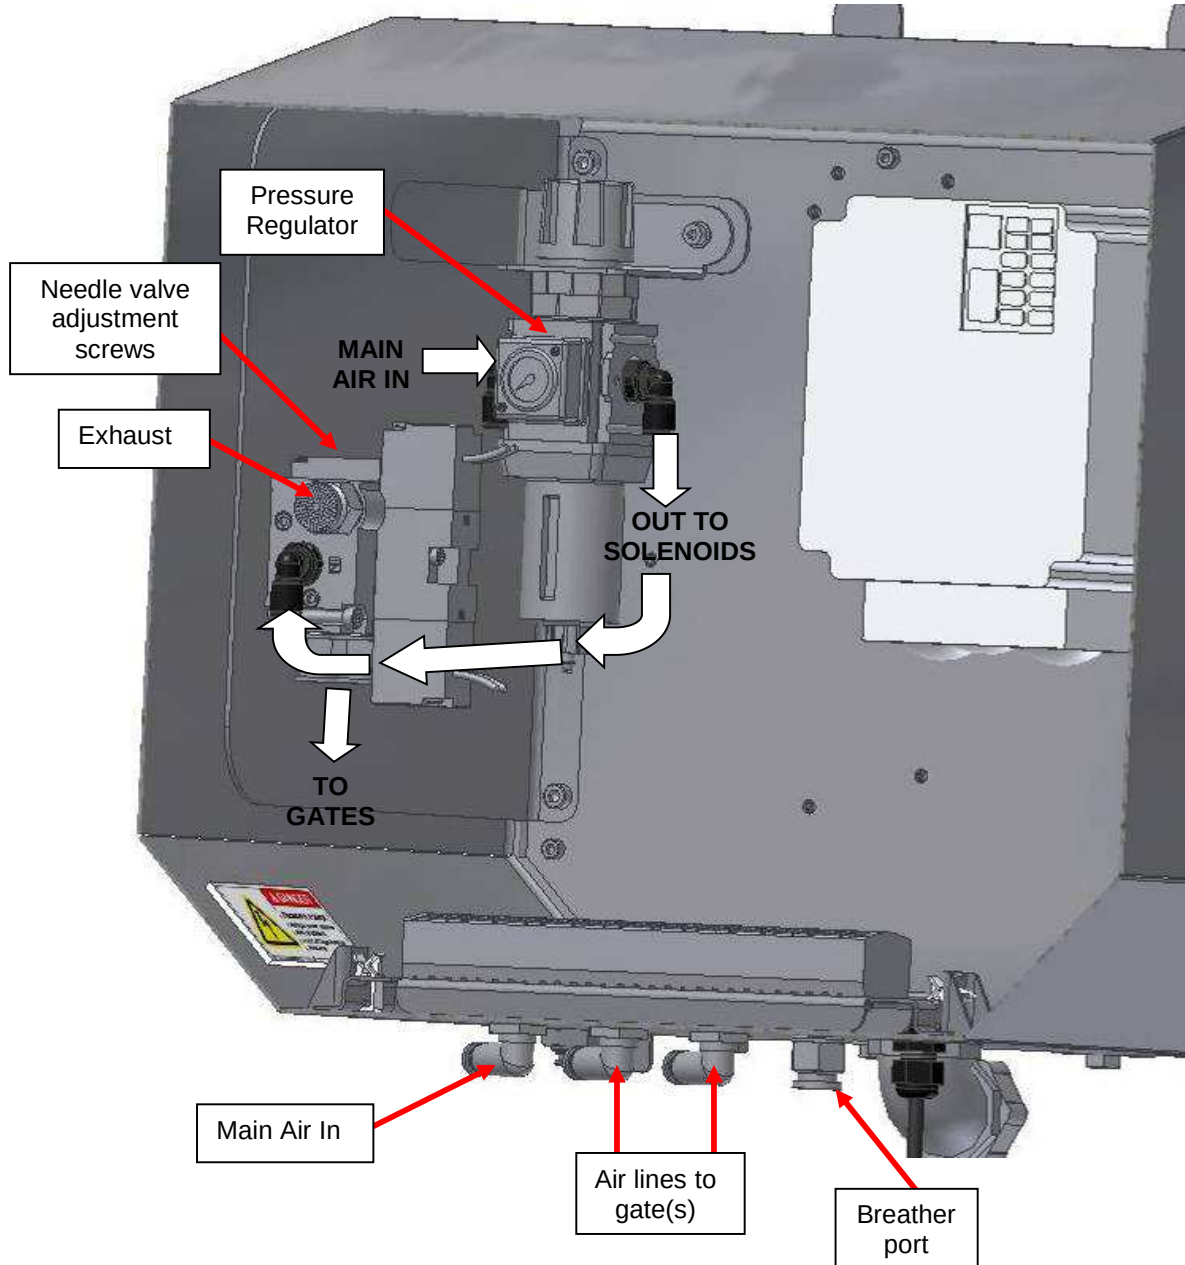

Figure 4-5 – Utility Enclosure with Typical Pneumatic Package
- 3 Connect air supply to the unit. Route supply air tubing (1/4 inch or 6mm) up through one of the cord grips supplied with the utility enclosure and connect to the pressure regulator (see Figure 4-5).
Set the system supply pressure to a pressure of 30 PSI (2.1 kgf/cm²) using the pressure control knob. The pressure will read out on the pressure regulator gauge (see Figure 4-5).